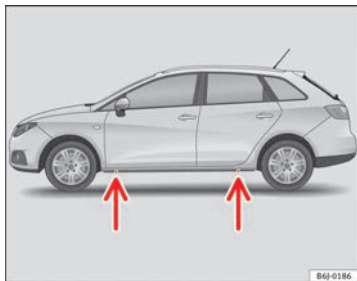

Fig. 146 Jack position points
- Locate the jacking point under the door sill closest to the wheel to be changed ⇒ **fig. 146**.
Recesses at the front and rear of the door sills mark the jacking points ⇒ **fig. 146**. There is only one jacking point for each wheel. Do not fit the jack anywhere else. ▶